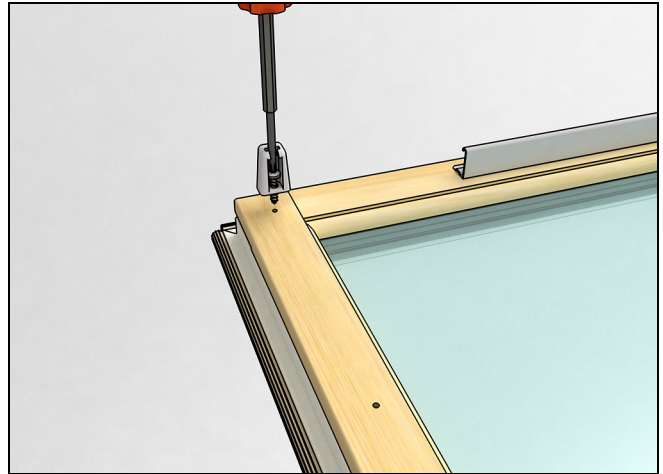

Figure 5 Correct orientation of tether plug.
14. Using a T20 Torx bit and driver, attach the tether plug to the sash with a #8-18 x 3/4" Torx T20 screw. See Figure 5.